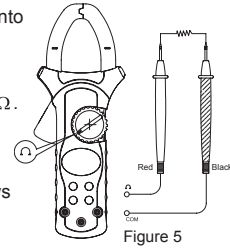

Figure 5
**D. Measuring Resistance (See Figure 5)**